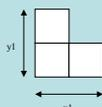

Figure 4 Measurement areas
- f) Along the edge of the plate measure the horizontal ( $x_1$ ) and vertical ( $y_1$ ) sizes of two squares as indicated in figure 4. Calculate the aspect ratio  $x_1/y_1$ .